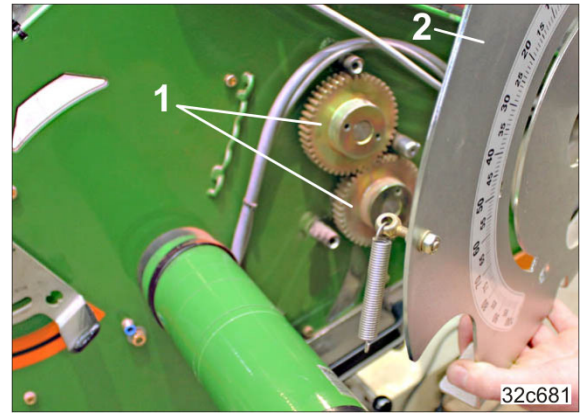

Fig. 265
7. Use compressed air to remove dust and dirt from the star wheels (Fig. 265/1) behind the scale area (Fig. 265/2).